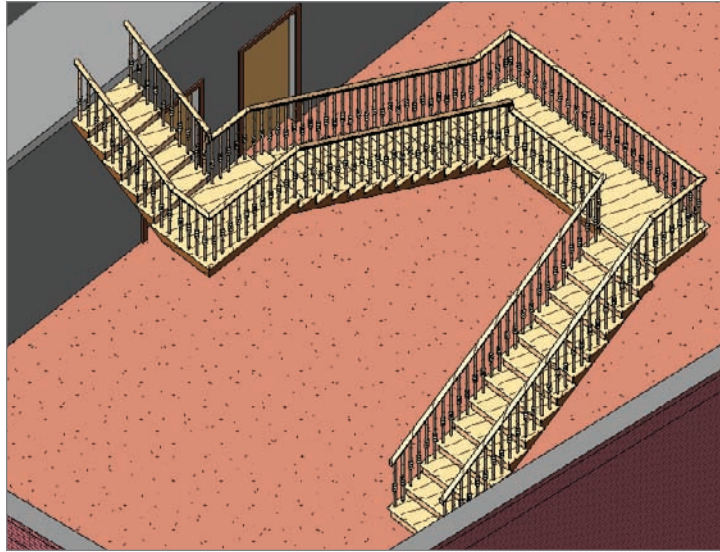

FIGURE 10.69 The stairs as shown in 3D. Notice the nice bullnose and the railings.
10. Go to a 3D view to check out the stairs. They should resemble Figure 10.69.